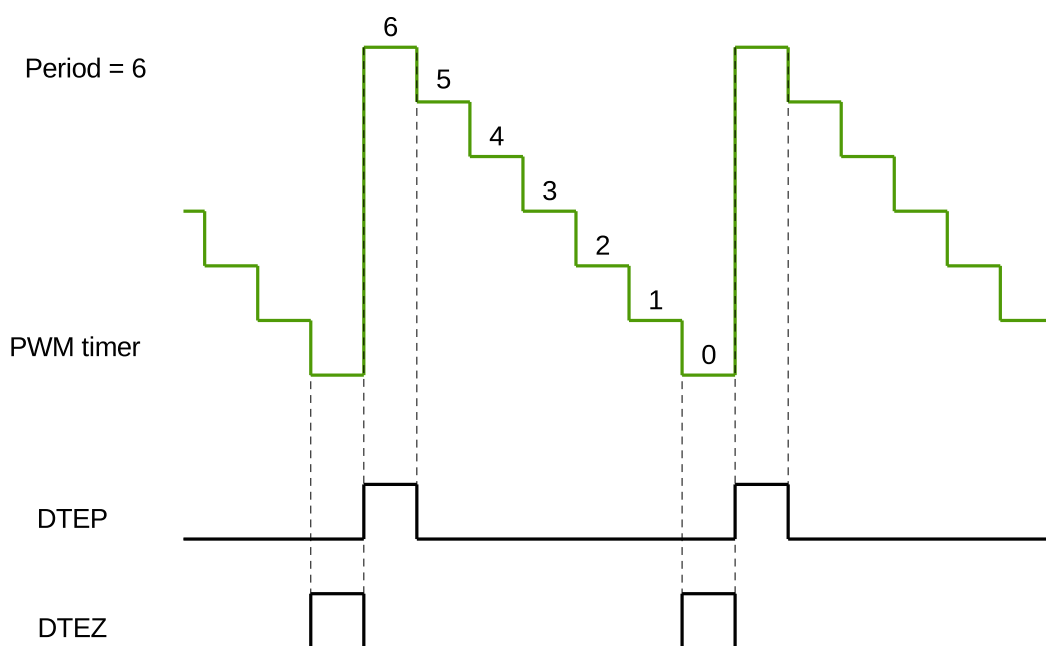

Figure 31.3-10. DTEP and DTEZ Generation in Count-Down Mode
2. DTEP and DTEZ do not happen simultaneously. When the PWM timer is in Count-Down Mode, DTEZ will always happen one cycle earlier than DTEP, as demonstrated in Figure 31.3-10, so their action on PWM signals will not interrupt each other. When the PWM timer is in Count-Up-Down Mode, DTEZ will not occur.